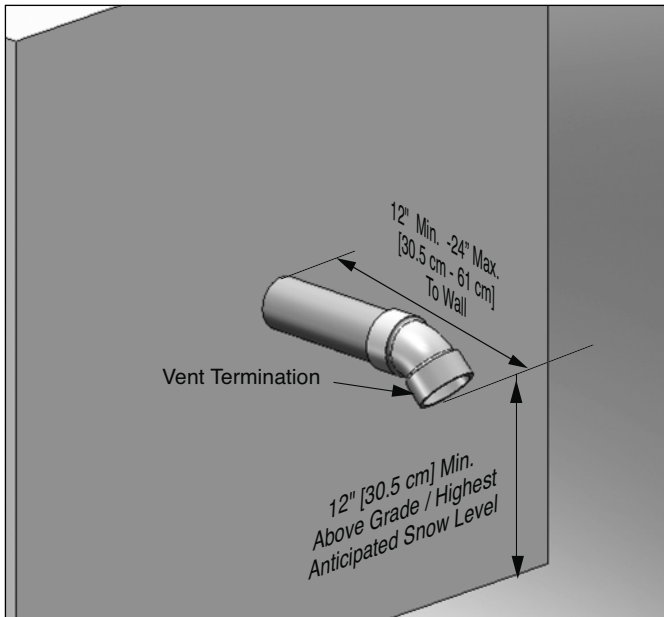
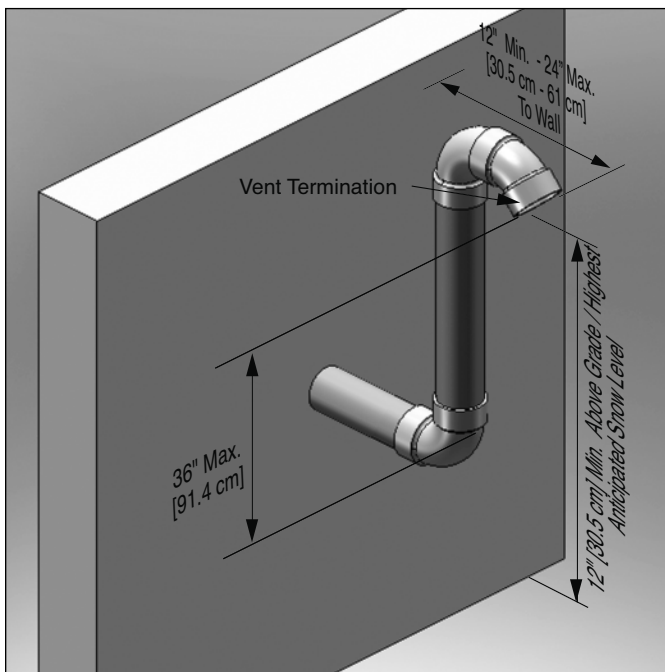

Fig. 28: Category IV - Sidewall Termination of Vent Pipe with 45° Termination
Fig. 31: Category IV - Sidewall Snorkel Termination of Vent Pipe with 45° Elbow Termination
- Using a 45° elbow as shown in Fig. 28 page 30 or Fig. 31 page 31.